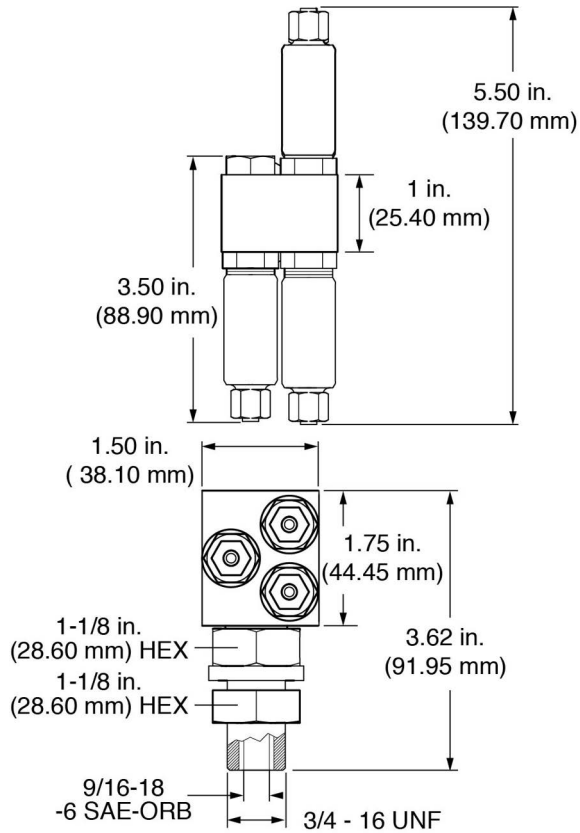

FIG. 35
- 6 port manifold - used in lubrication systems with 6 or less lubrication points (FIG. 33 and FIG. 35).
- 12 port manifold - used in lubrication systems with 7 to 12 lubrication points (FIG. 34 and FIG. 35).